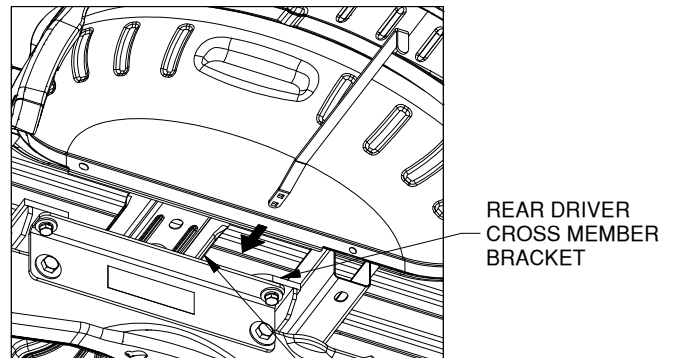

Figure F1: Driver Side Wheel Well.
- Position handle.** There is very little room between the bed and the frame. From the outside of the driver side wheel well pass the handle over the frame between the bed stiffener and the rear driver cross member bracket as shown in Figure F1. The handle will have to be pushed toward the cab once the end with the holes is past the frame.